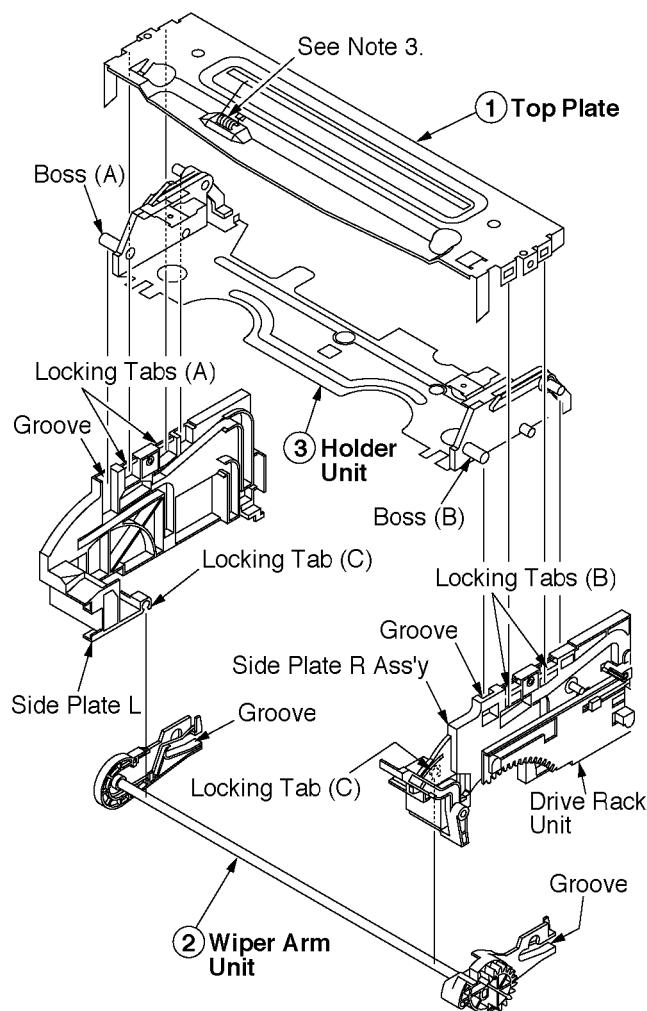

Fig. K1-1
- Insert Holder Unit boss (A) and (B) into the grooves (See Fig. K1-1 on previous page).